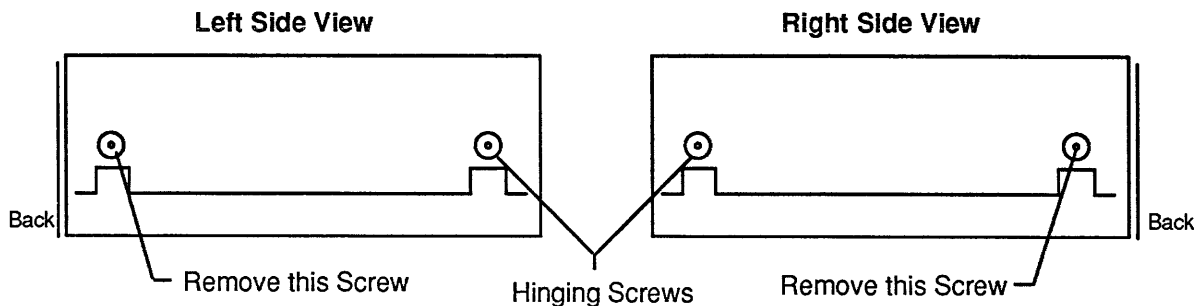

Figure C.6. Opening the Disk Drive
- a. Remove the two torx-head screws from the side panels that are near the back panel as shown in Figure C.6.
- b. Open the Disk Drive by pulling the top and bottom edges apart towards the back of the Disk Drive. The Disk Drive hinges on the two torx-head screws towards the front of the Disk Drive as the Drive is pulled apart at the back. The hinging screws are also shown in Figure C.6.